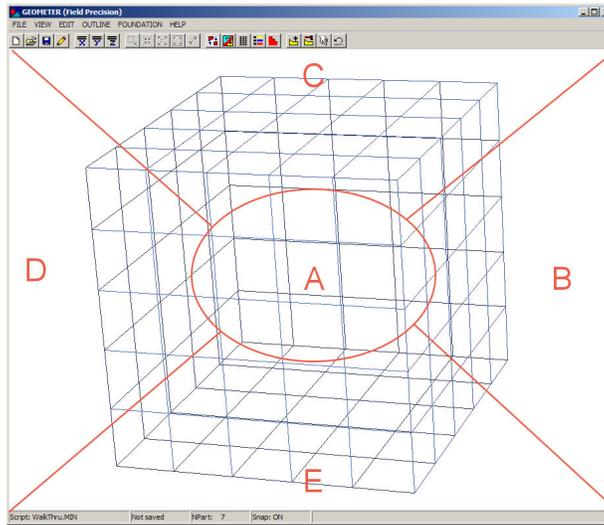

Figure 30: Active areas for mouse control of the 3D view.
The method to control the three-dimensional display with the mouse is the same as that in **MetaMesh**. Figure 30 shows the active areas of the screen. The cursor changes as you move between zones. The central zone (A) is used for zooming in (left button) and out (right button). Hold down the left mouse button in zones B, C, D and E to walk around the object. Hold down the right mouse button in zones B, C, D and E to move the viewpoint to the right, upward, to the left and downward. Note that changes are reflected in the orientation box in the upper-right portion of the screen. The plot is updated when you release the mouse button. You can control additional aspects of the three-dimensional view with the commands of the *Adjust view* popup menu.